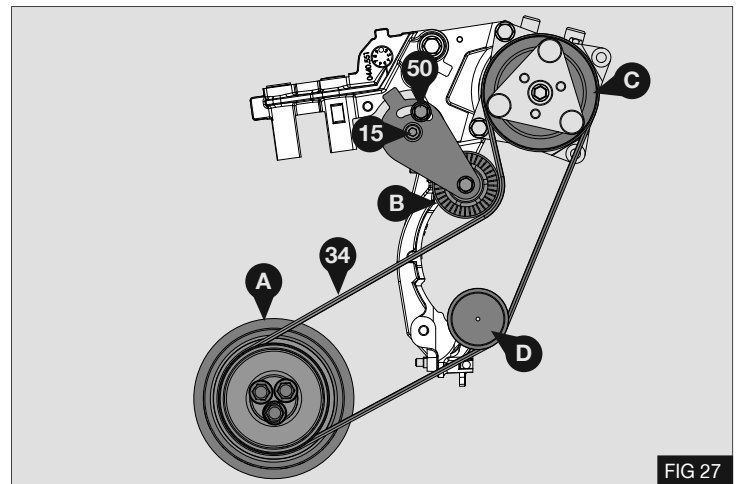

FIG 27
11. Install the compressor belt (34). Fig 27.